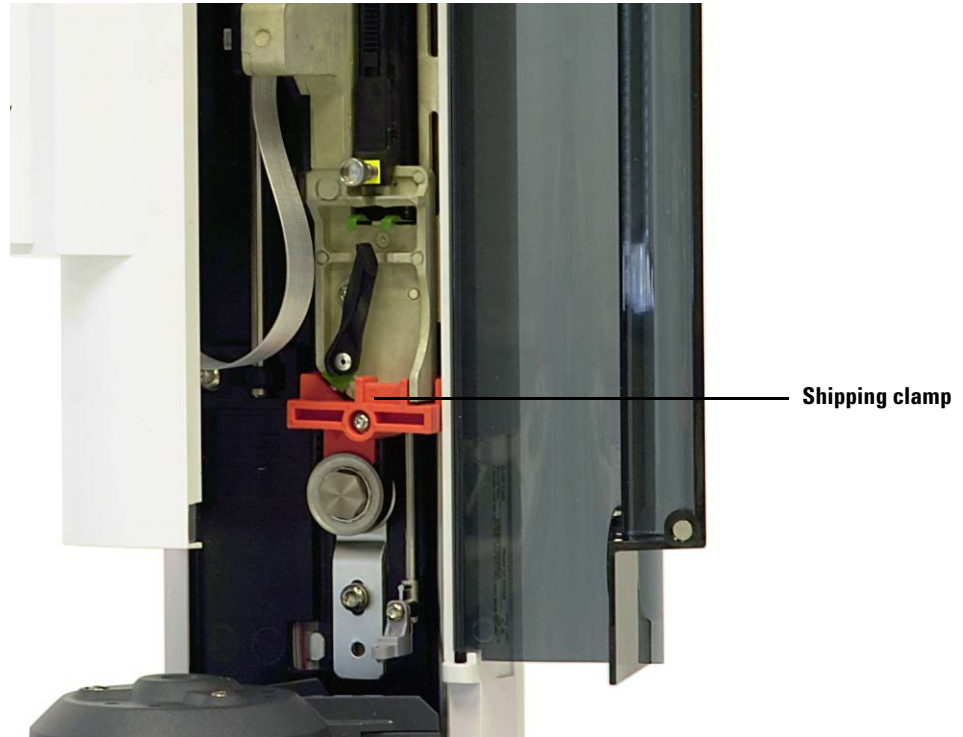

Figure 8 Shipping clamp installed.
- 5 Using a T-10 Torx driver, completely loosen the T-10 screw and remove the shipping clamp from the syringe carriage (Figure 8 and Figure 9).